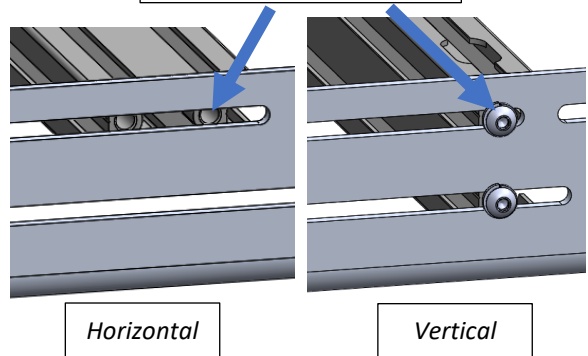

Figure 6: Crossbar Fastening to Side Rail Subassemblies
4. Install at crossbars to connect the driver and passenger side rail subassemblies together. Use measurements of vents or flooring panels to correctly space crossbars. Crossbars can be installed **horizontally** (top slots) or **vertically** (top & bottom slots) of the side rails. Reference Figure 5 & Figure 6.